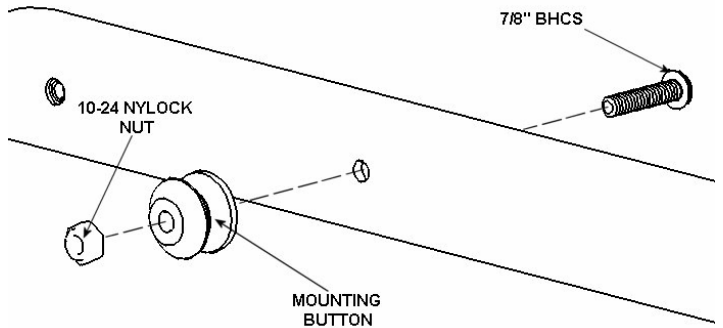
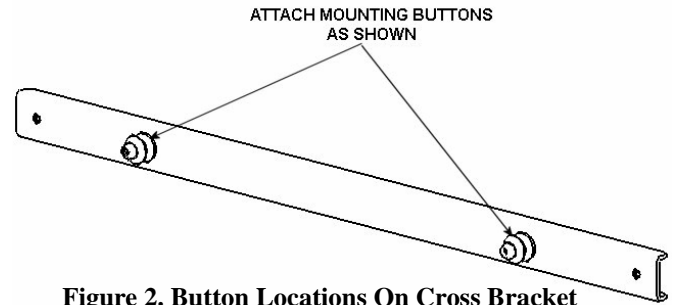

Figure 1. Button Attachment Hardware
Figure 2. Button Locations On Cross Bracket
Each interface bracket has square holes for attaching mounting buttons (See Figure 1). These holes are arranged in a 24" vertical spacing pattern. When the proper hole pattern is used, the mounting buttons will form a 24" X 24" pattern when installed on your display. The following steps will explain how to attach the mounting buttons.
2. Using the mounting buttons and hardware in the parts bag labeled A, attach the mounting buttons on the cross bracket (see Figure 1 and Figure 2)